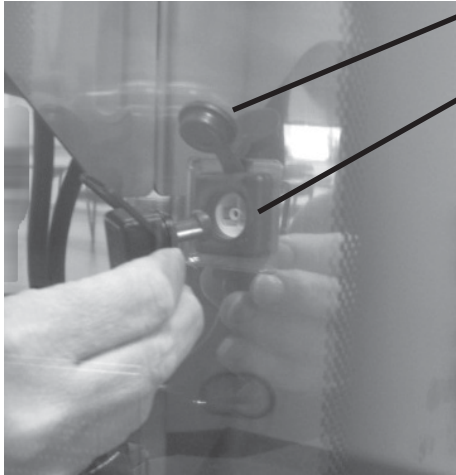

Figure 1
- b. Pull the cover off the receptacles on the right side of the shelves. Figure 1.
- c. Line up the prongs on the plug with the holes in the receptacle, and firmly push the plugs into the receptacle. Figure 1.